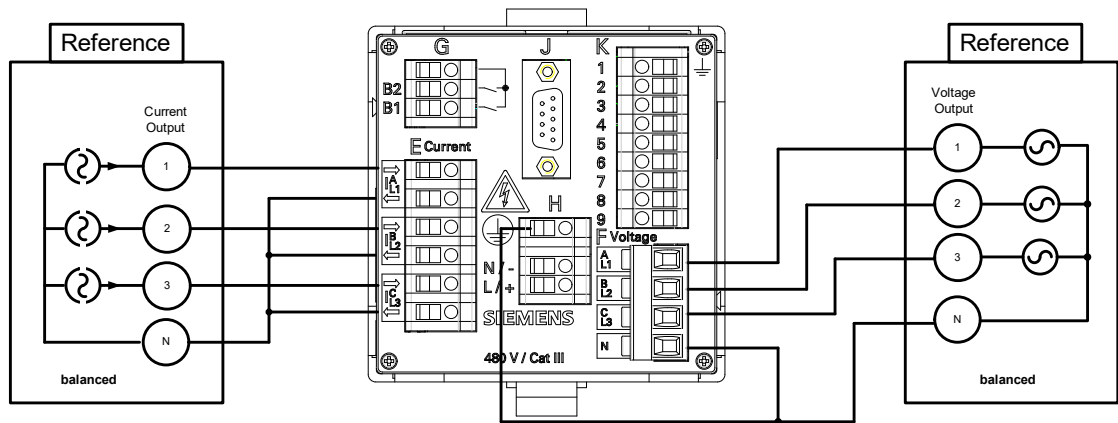

Fig. 10-11 Measurement Setup for Phase Angle
- ◇ Set up the measurement as shown in figure 10-11.